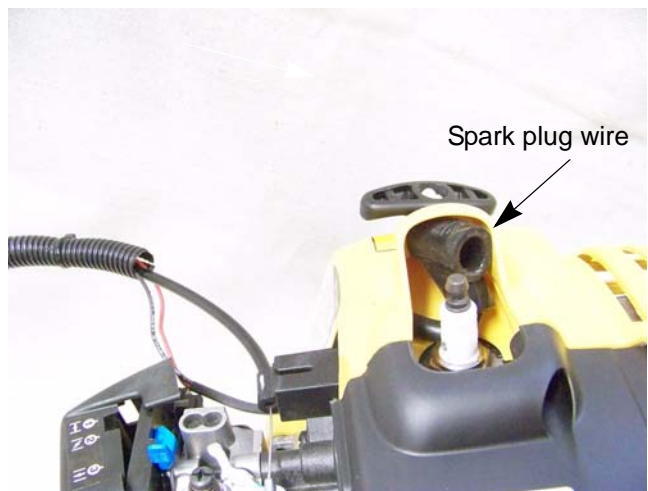

Figure 2.4
2. Push the Spark plug wire boot into the starter housing. See Figure 2.4.